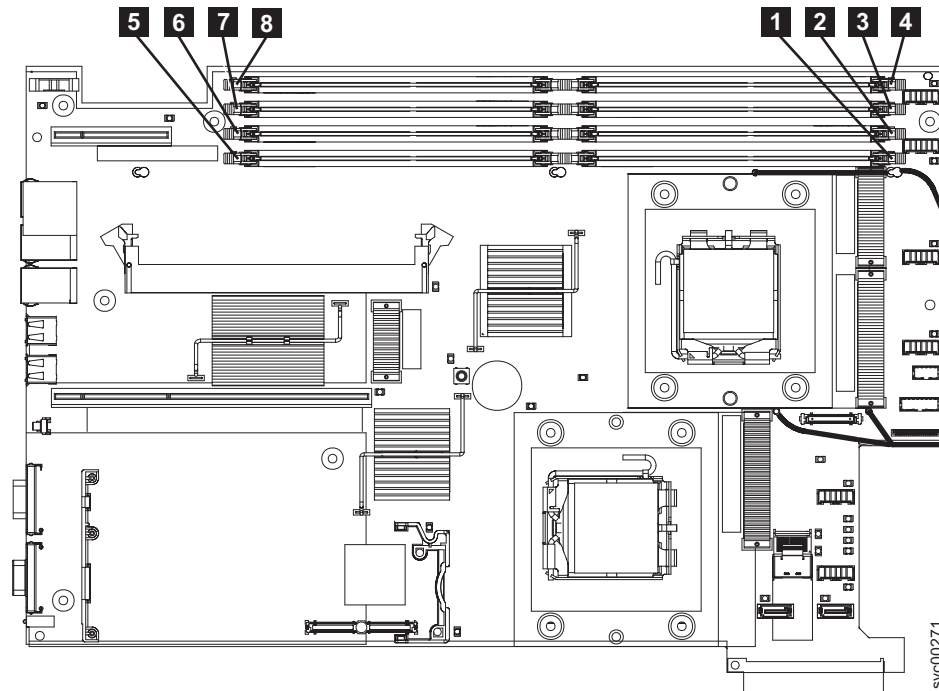

Figure 80. Locating the SAN Volume Controller 2145-8G4 memory modules
- The original version (Rev 1) uses eight 1 GB memory modules in slots **1** through **8**, which are shown in Figure 80 on page 99.